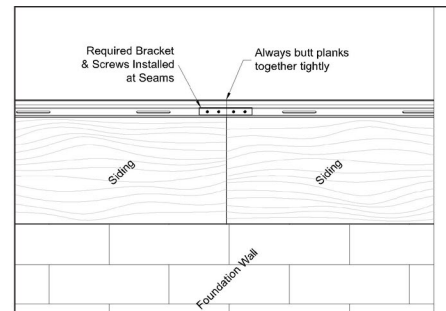

Figure 6
- Proper installation of seam brackets ensures all planks in a course are securely tied together and will be able to expand and contract freely as a single unit within pocketed trim (Figure 6).
- Butt planks together tightly at seams before installing the seam bracket (Figure 6).